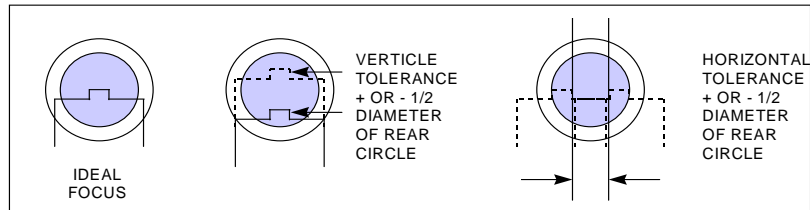

Figure 3-22
- f. Turn each focus screw **COUNTER-CLOCKWISE** nine (9) complete revolutions.
- g. Install the focus prism over one of the focus dots on the lens. You should observe the focus fixture slightly below the sighting marks if not right on. See Figure 3-22.
- i. Observe the focus fixture. Is it right or left or low? If so, turn one of the two focus screws not aligned with the sighting marks until the focus fixture is centered. See Figure 3-22.
- j. If the focus fixture is above the sighting marks, turn each focus screw two (2) or three (3) more complete turns until it is either below it or right on.